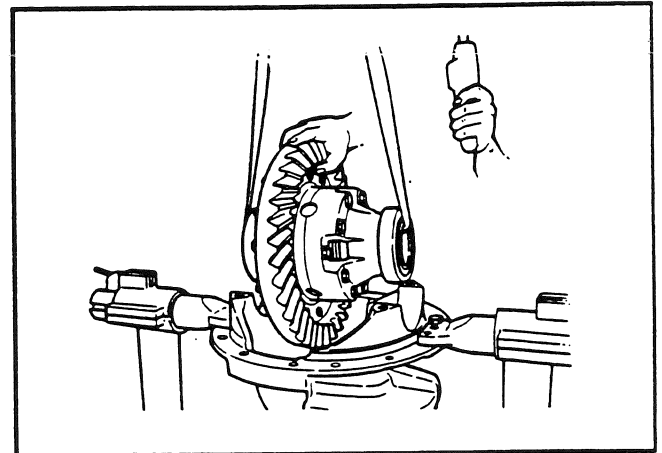

Fig. 13
6. Use safe lifting tackle to remove the differential and ring gear assembly from the carrier (see Fig. 13). Place the assembly on a clean workbench.